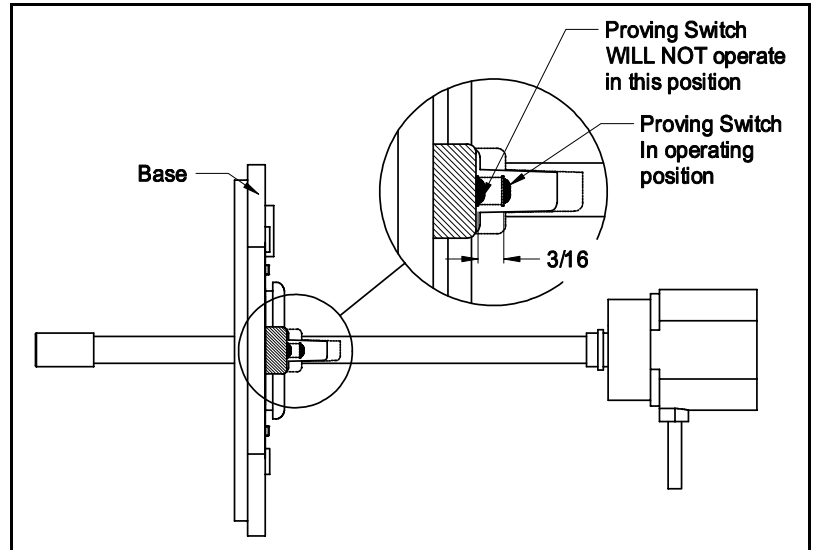

Figure 6
11. If blue glow is not seen, make sure base is properly installed onto duct. There is a proving switch located on the base that needs to be seated properly onto the duct. **Make sure that when base is mounted that the plated washer on the switch is raised approximately 3/16" and the switch is fully engaged.** (See Figure 6)